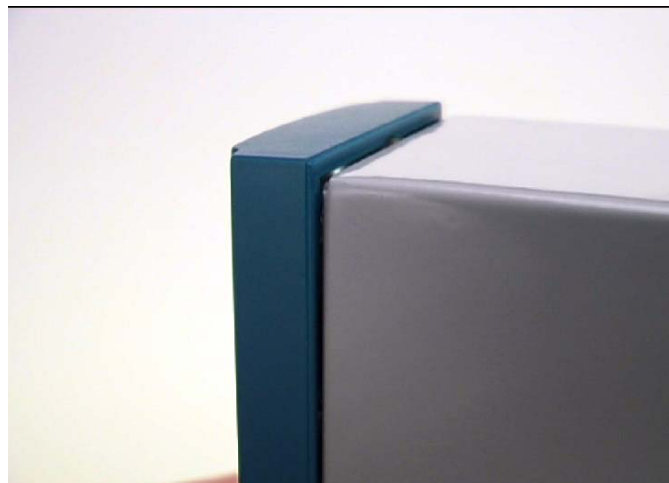

Figure 2-3. Lifted Front Panel
3. Carefully slide the front panel up 4 mm (0.15 in) to allow it to clear the retaining groove at the top of the case, and then allow the panel to come forward to clear the panel case completely (refer to *Figure 2-3*).